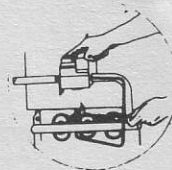

Fig. 5
6. Wait five (5) minutes to clear out any gas. If you then smell gas, STOP! Follow "B" in the safety information above on this label. If you don't smell gas, go to next step.
7. The pilot location is shown on Figure 5.